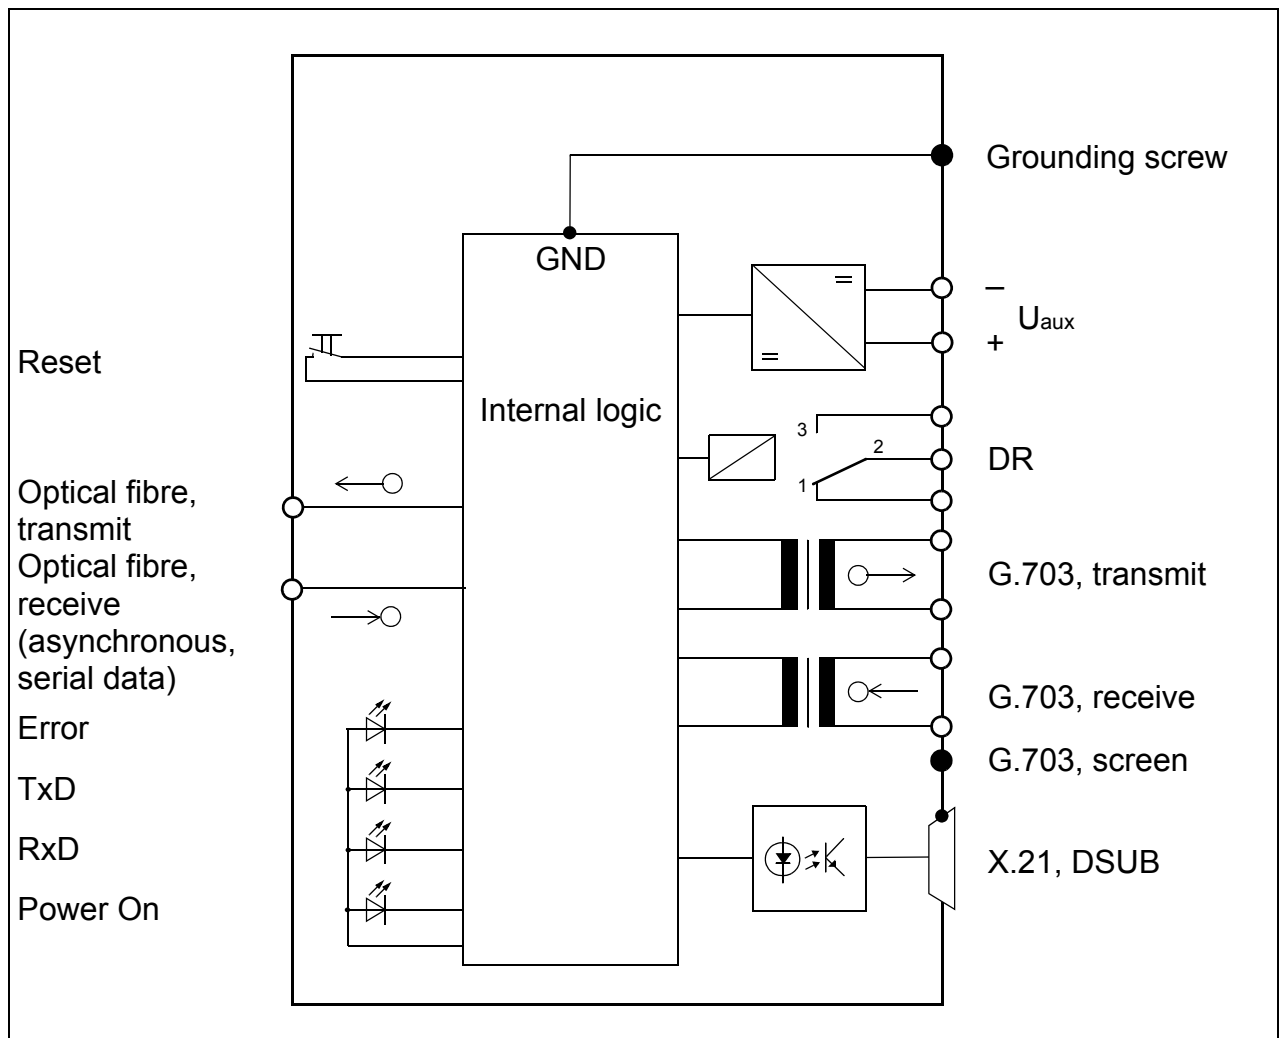

Figure 13 Hardware structure of the CC-XG
The task of the CC-XG is to perform an adaptation of the available asynchronous fibre-optic interface in the protection device (DTE) to the physical specification of the respective interface of the communication network (DCE). The adaptation occurs completely bit-transparent, i.e. direct forwarding of the information without adding or filtering out information. Figure 13 shows the hardware structure.
- ❑ **X.21:** The signals of the X.21 interface must be applied to the 15-pole DSUB–connector (X.21). The cable screen is connected to the housing. The X.21 signals are electrically isolated from the other electrical circuits (Figure 13).
- ❑ **G.703.1:** The signals of the G.703.1 interface must be applied to the 5-pole screw terminal (G.703) (one incoming and one outgoing pair of strands in each case). The fifth screw terminal adjacent on the left ("S") is for contacting the cable screen and is connected to the housing. The G.703.1 signals are electrically isolated from the other electrical circuits (Figure 13).